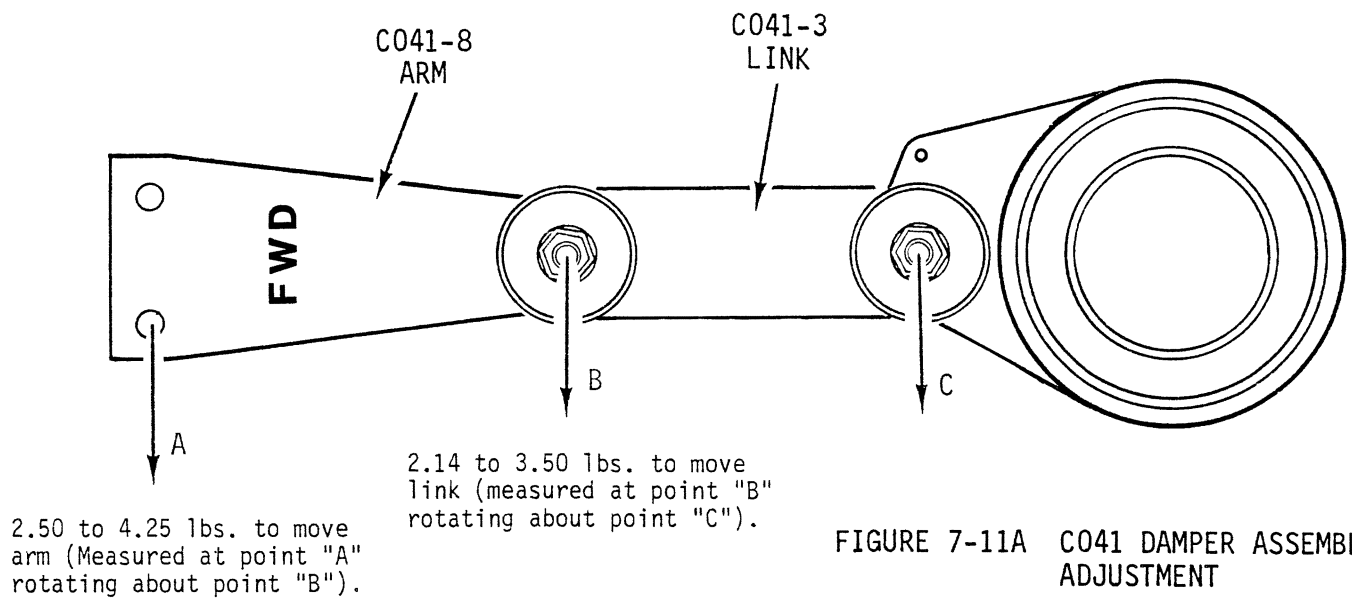

FIGURE 7-11A CO41 DAMPER ASSEMBLY ADJUSTMENT
- f) Refer to Figure 7-11A. Hold C041-3 link and attach a spring scale or dead weight to one bolt hole in C041-8 arm. It should take 2.50 to 4.25 lb to move arm. Check bearing housing pivot friction with spring scale or dead weight at link bolt. It should take 2.14 to 3.50 lb to move link.